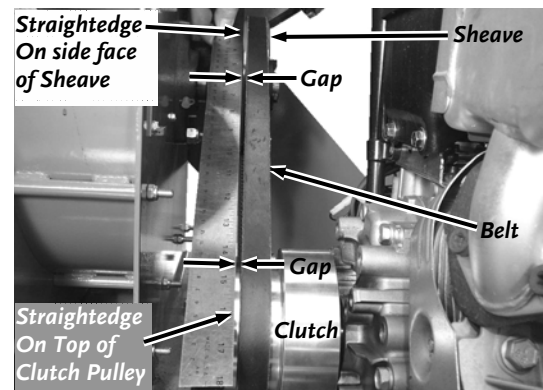

Figure 30
6. Remove the Belt from the Clutch and Sheave (**Figure 30**).
3. Check the alignment of the Clutch with the Sheave by placing a Straightedge across the Sheave side face (closest to the Chipper Assembly) and resting the other end on top of the Clutch Pulley (**Figure 30**).